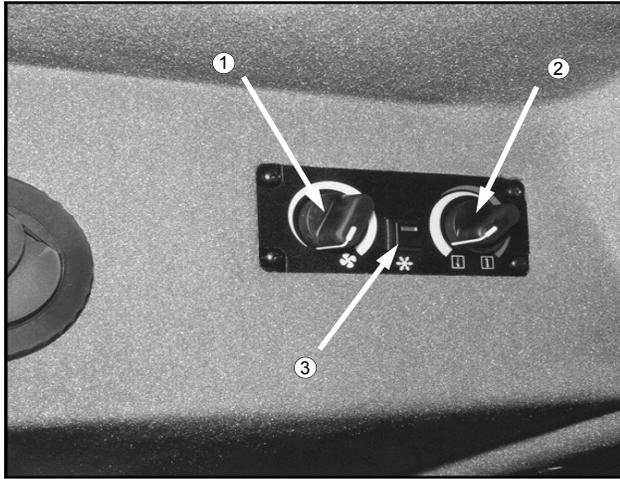

FIG 5.83
**ADJUSTING FAN BLOWER SPEED-** Fan blower speed is controlled by the left rotary dial on the cab climate control panel (fig. 5.83, item 1). The fan blower speed is a continuously variable adjustment. To increase fan speed, rotate fan blower dial clockwise. To reduce fan speed, rotate fan blower dial counterclockwise. To shut fan blower off, rotate fan blower dial all the way counterclockwise.
**ADJUSTING TEMPERATURE SETTING -** Forced air temperature adjustments are controlled by the right rotary dial on the cab climate control panel (fig. 5.83, item 2). Temperature control is a continuously variable adjustment. To increase forced air temperature, rotate temperature dial clockwise. To decrease forced air temperature, rotate temperature dial counterclockwise.
**OPERATING AIR CONDITIONING -** To activate the air conditioner, depress the air conditioning switch (fig. 5.83, item 3). Adjust fan speed and temperature accordingly.